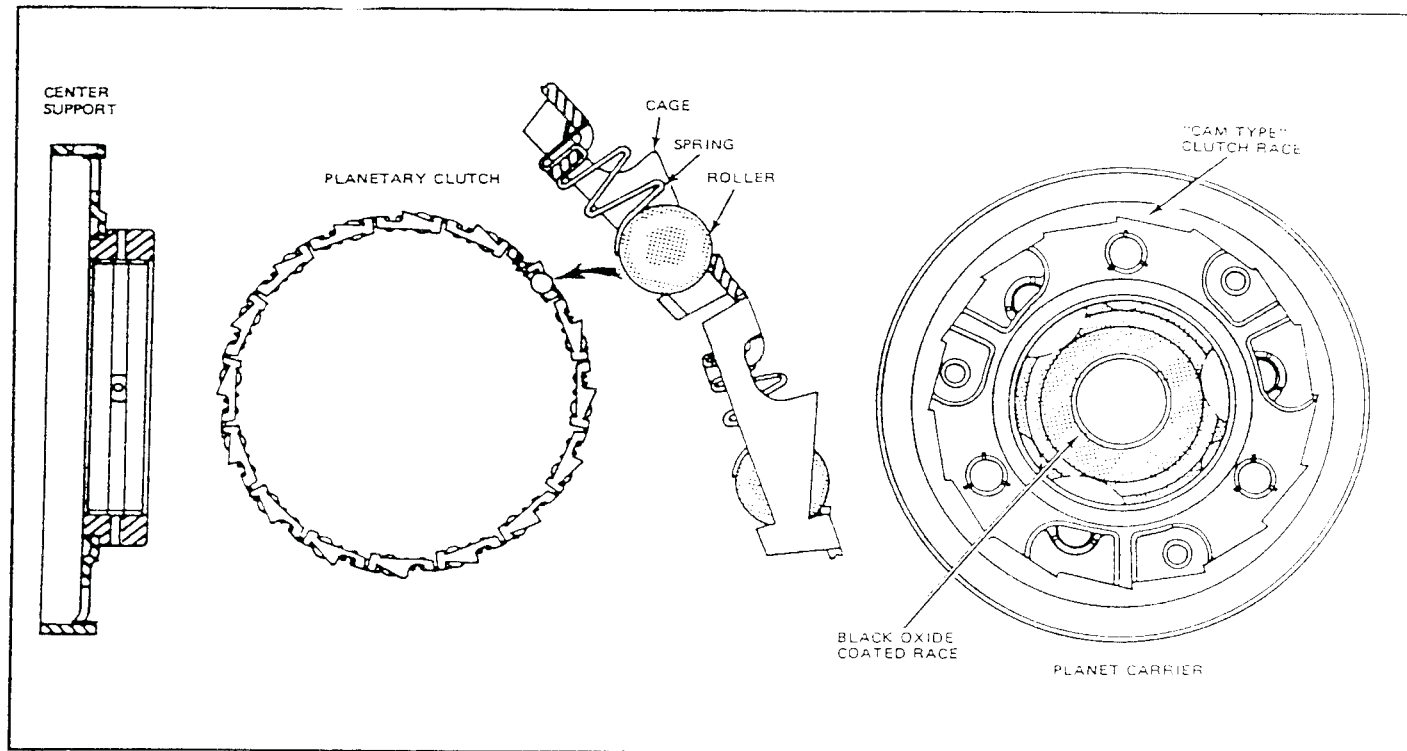

FIG. 30 Roller Type Planetary Clutch, Carrier and Center Support—AOD
1. Inspect the clutch outer race, inner race, band surface, pinion gears, bearings, and thrust washer (Fig. 30) for roughness.